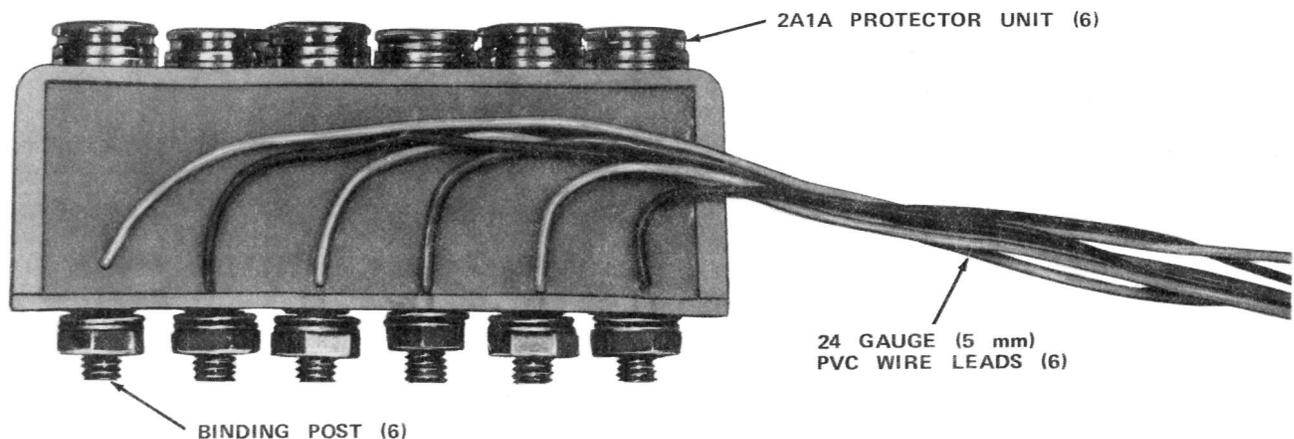

Fig. 10—6A3A (MD) Terminal Block
3.12 The 6A3A (MD) terminal block (Fig. 10) can be used in lieu of fuseless station protectors where stations are served by buried cable and the cable closure (such as PC6 or PC12 cable closure) is installed on the premises served. The 6A3A (MD) terminal block mounts inside the